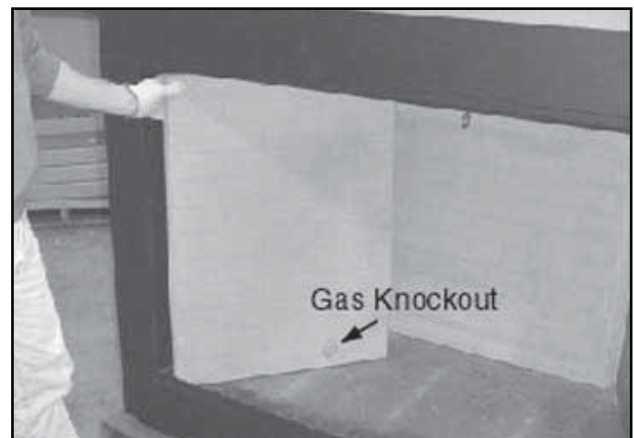

Figure 7.13 Install Side Refractory
Note: To ensure proper installation, gas knockouts in the side refractories should be positioned towards back of fireplace. See Figure 7.13.
- Place side refractory into fireplace. Position towards front of fireplace and slide to the rear. See Figures 7.13 and 7.14. Repeat for the second side refractory.